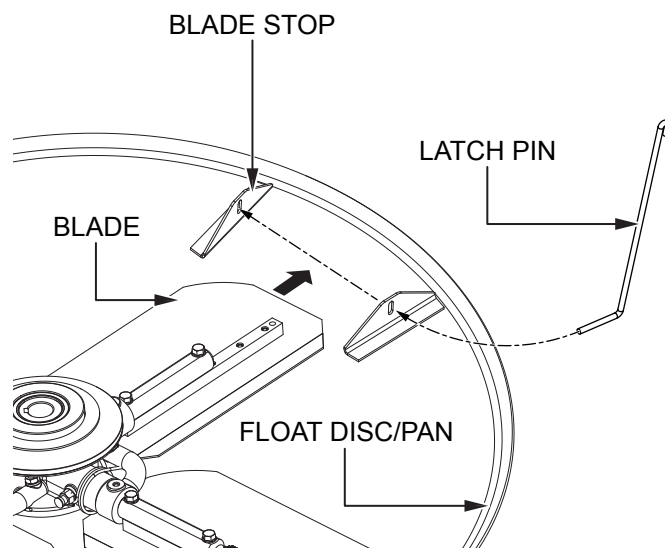

Figure 18. Float Pan Installation (Latch Pins)
1. Lift the trowel just enough to slide the float pan under the blades. Lower the trowel onto the pan with the blades between the blade stops (Figure 18).
2. Rotate the blades so that the blades fit between the blade stops (Figure 18). Be sure to rotate the blades in the same direction as during operation, or use the engine to rotate the blades into position.
3. Route the latch pins through the holes in the blade stops as shown in Figure 18.